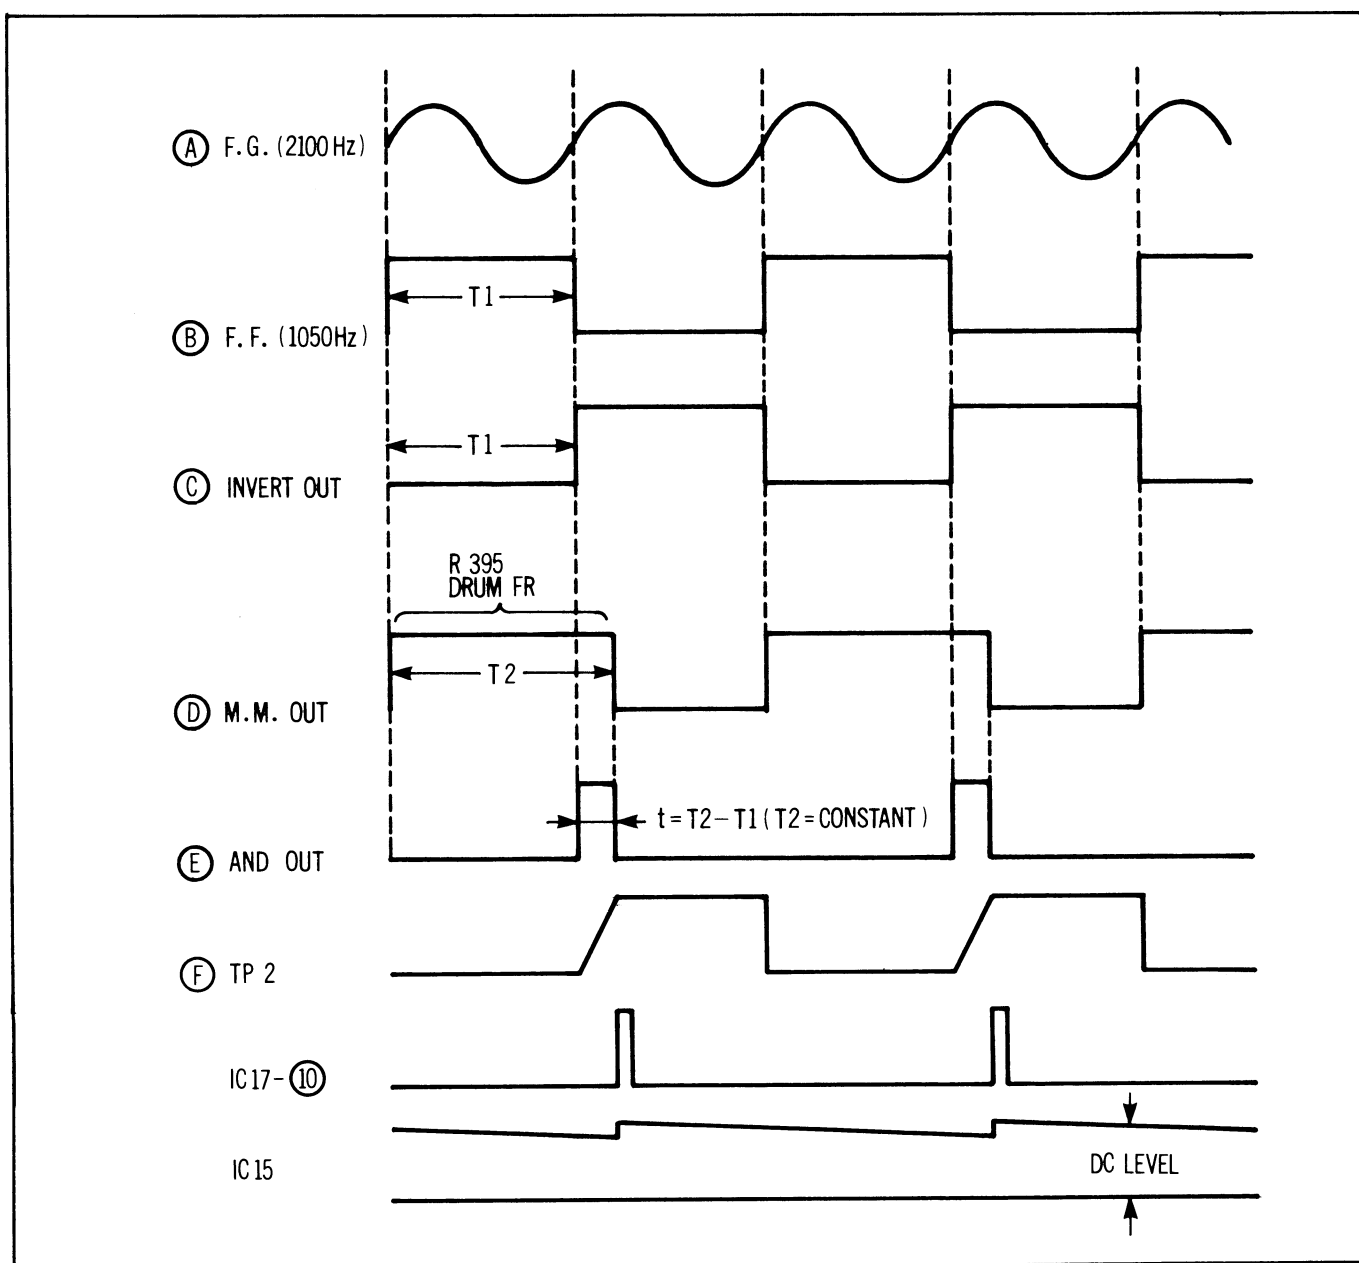

Figure 2-140
IC15-(10), (11) is turned on by the gate pulse from MMV IC17-(10), (11). See Fig. 2-140. The output of this sampling circuit is integrated by C112, which produces an approximately 5 V DC signal, and an AC signal whose level varies with the pulse width "t". See Fig. 2-140.